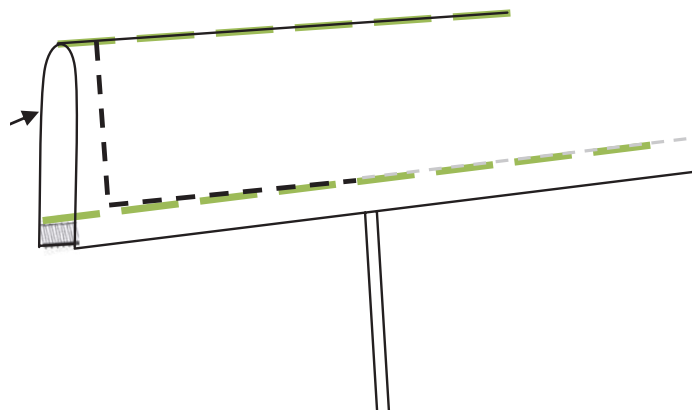

Figure 7
6. If the zip does not have a zip guard attached, bag out the other end of the waistband to form an extension for the button and turn through to the right side. See Figure 7 below.